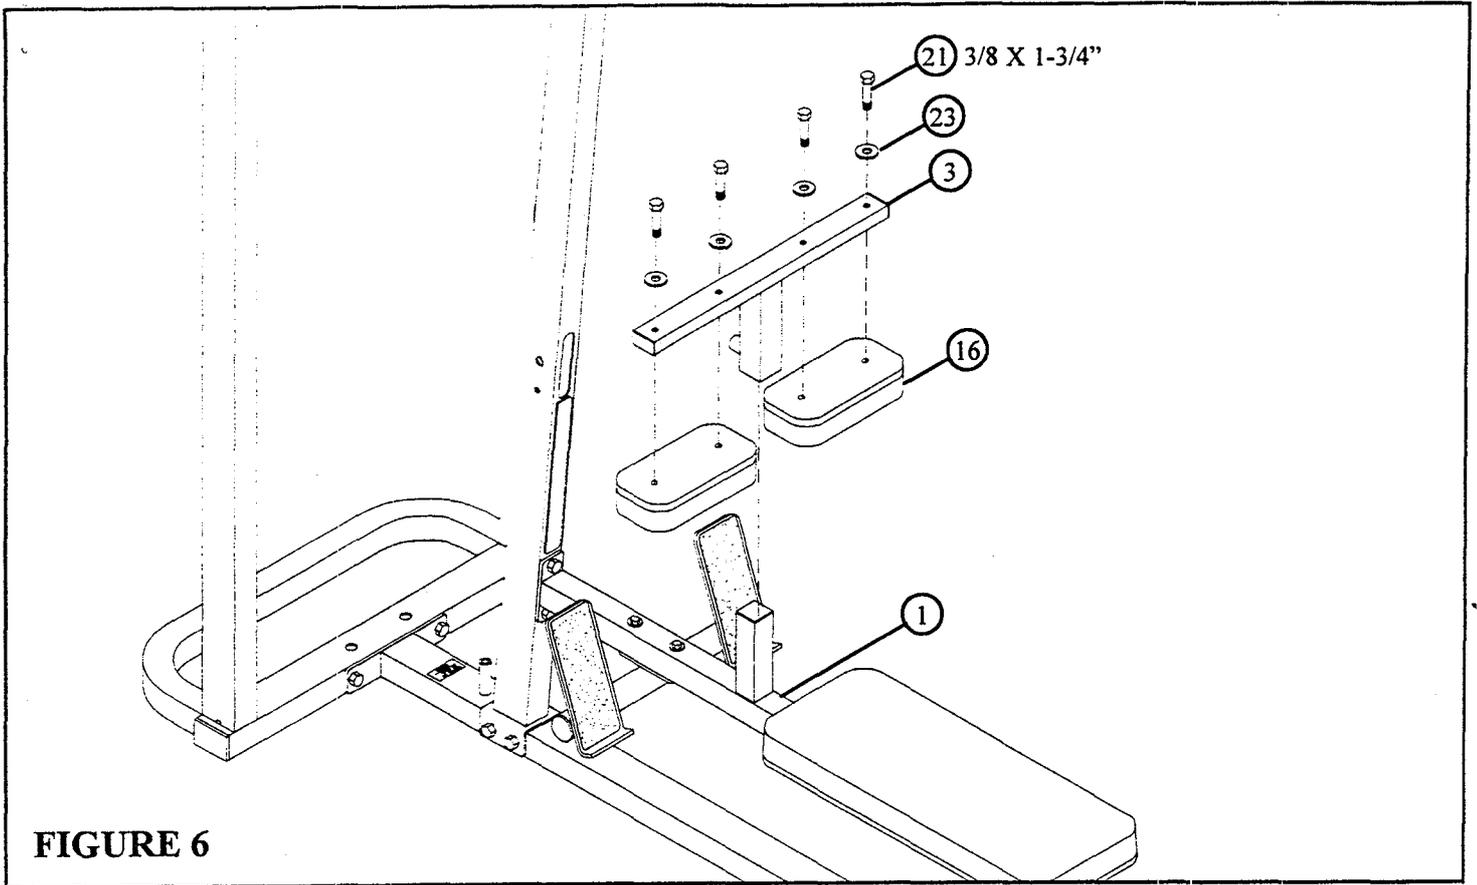

FIGURE 6
- A. Securely attach two KNEE PADS (16) to KNEE SUPPORT (3) using four 3/8 X 1-3/4" BOLTS (21) and four 3/8" WASHERS (23). See FIGURE 6.
- B. Slide KNEE SUPPORT (3) over square tube on BENCH FRAME (1). Make sure SPRING PIN HOUSING on the KNEE SUPPORT (3) is facing away from the SEAT PAD. See FIGURE 6 & 7.